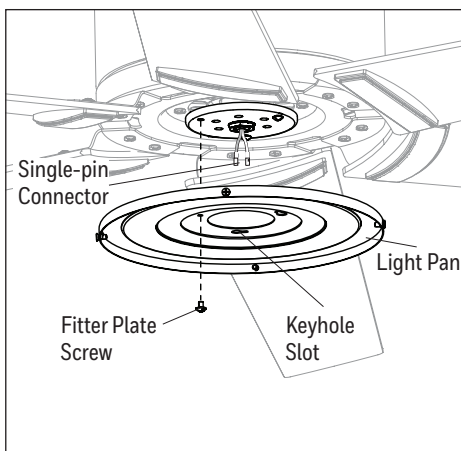

Figure 5.6
6. Remove one of the four fitter plate screws from the fitter plate and loosen the other three but do not remove. Feed the single-pin connect through the center hole in the light pan. Align the keyhole slots in the light pan with the loosened screws in the fitter plate. Turn light pan clockwise and replace the previously removed fitter plate screw. Tighten all screws (Figure 5.6).